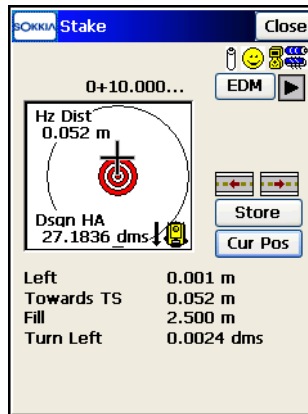

Figure 9-24. Stakeout
6. For TS: sight the prism. On the **Stake** screen tap the **Cur Pos** button to measure the target. Tap the **EDM** button to select distance measurement mode, either *Coarse*, *Fine* or *Coarse Tracking*. Once the position is close enough to the desired point, tap **Meas** to store it (Figure 9-24 on page 9-18).
Tap the  /  (left or right offset) buttons to retreat/advance the station by the specified Station Interval, for staking out the previous/next station, respectively (Figure 9-24).